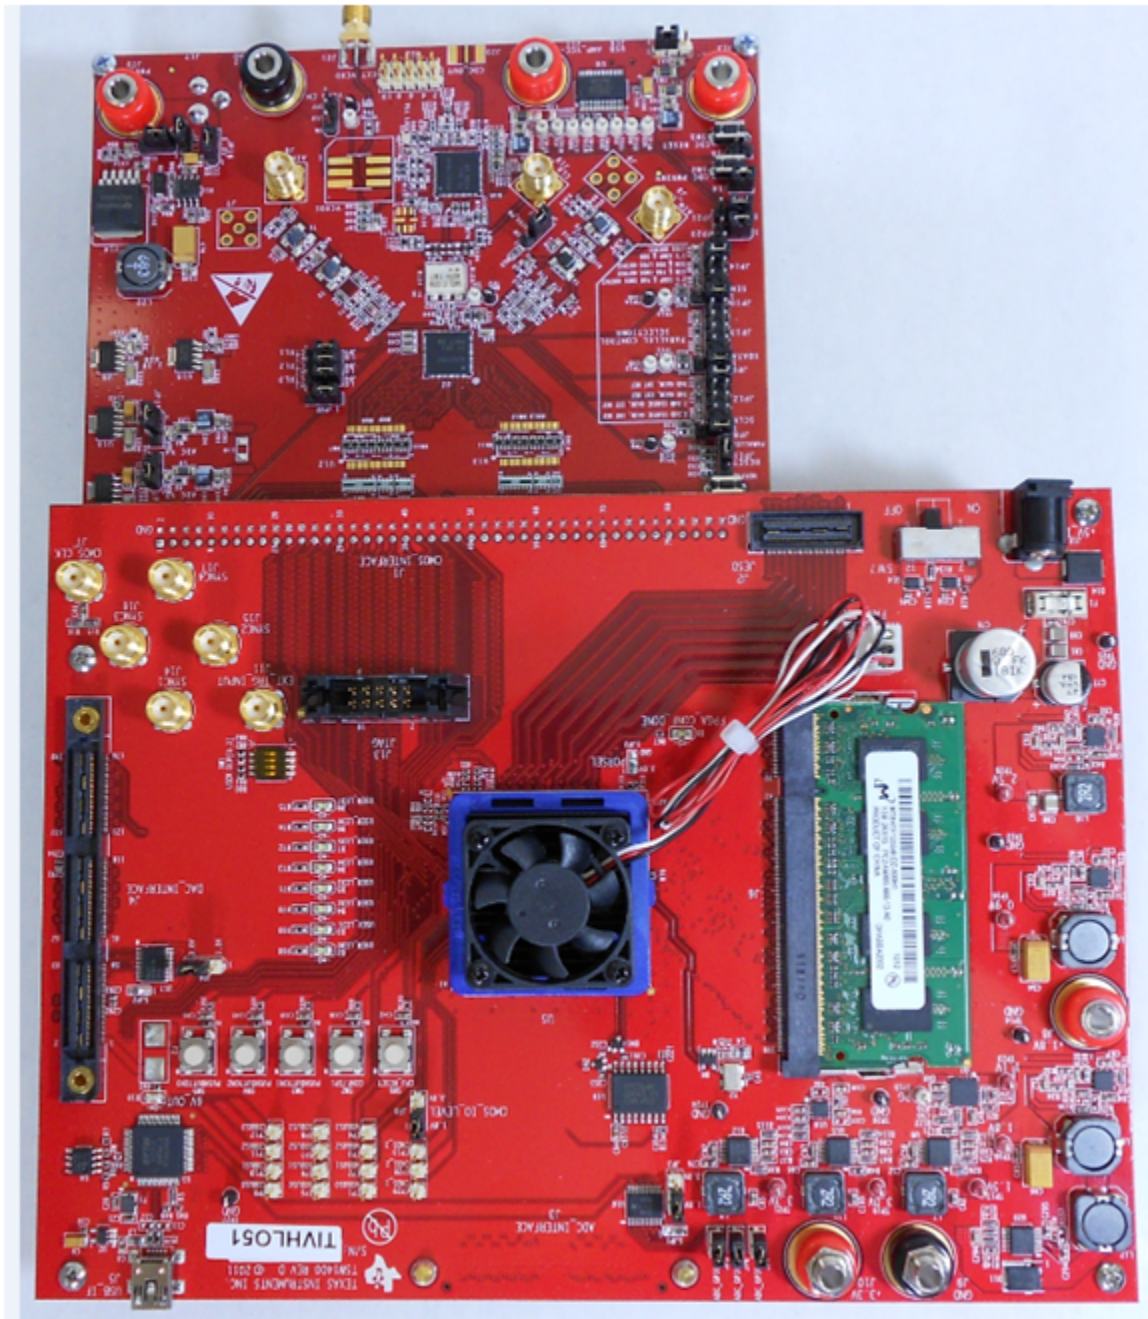

Figure 10. TSW1400EVM Interfacing to the CMOS Connectors of an ADS62P49EVM
- The TSW1400 EVM connected to the CMOS connectors of the ADS62P49 EVM is shown in Figure 10